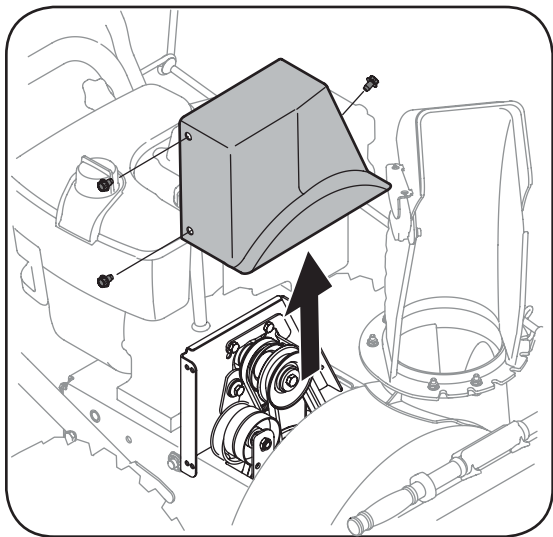

Figure 23
2. Remove the plastic belt cover, located near the engine, by removing the three self-tapping screws and flat washers that secure it. See Figure 23.